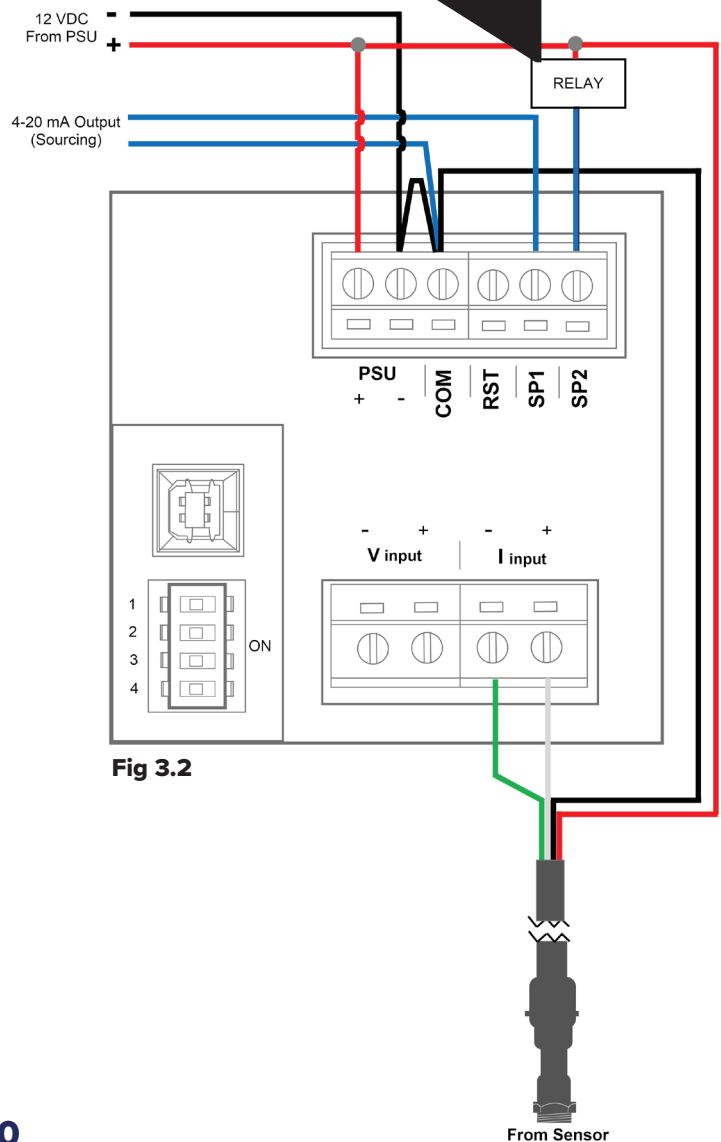

Fig 3.2
11. If being used, connect the alarm relay (see Fig.3.2).